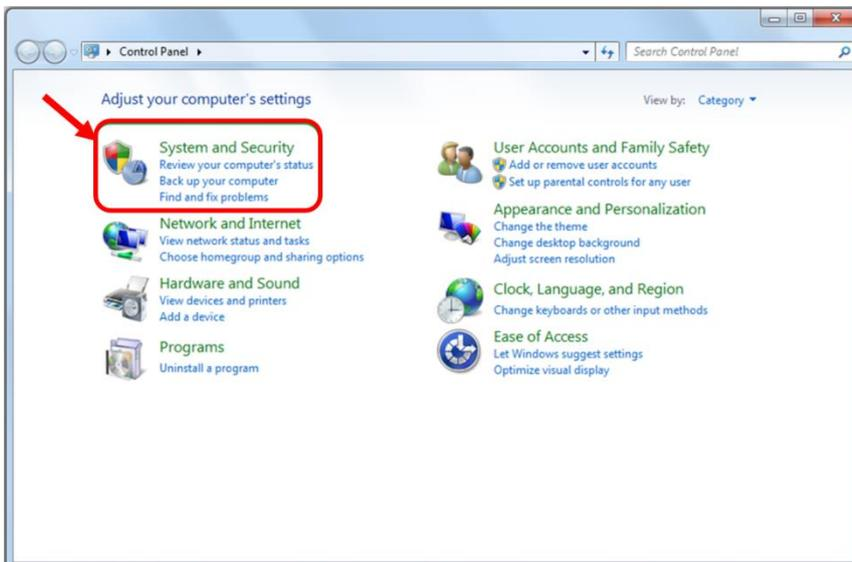

Fig. 13 Control panel.
- Press **Start** and Select Control Panels (Fig. 13)